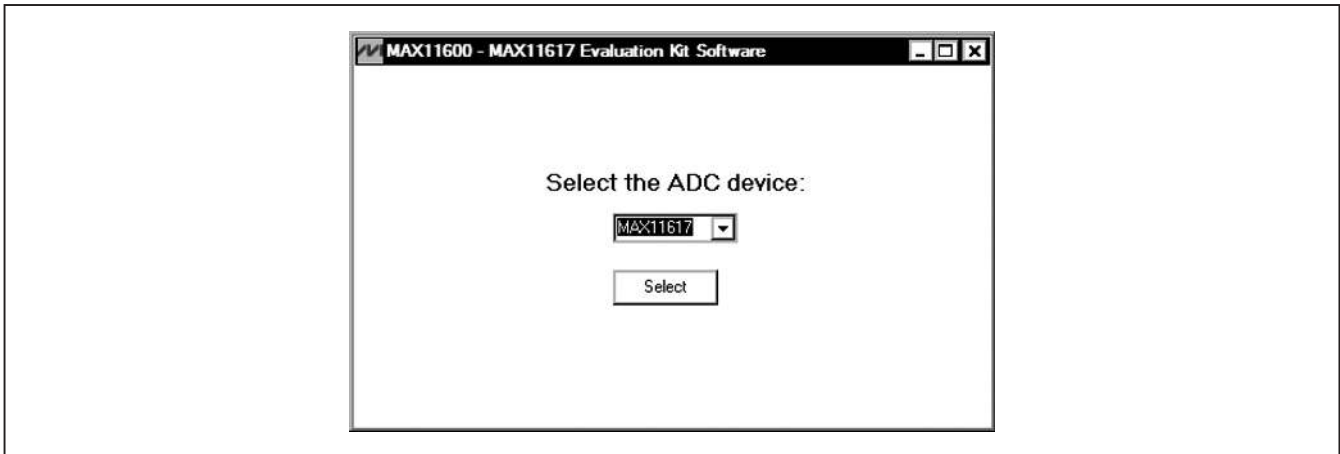
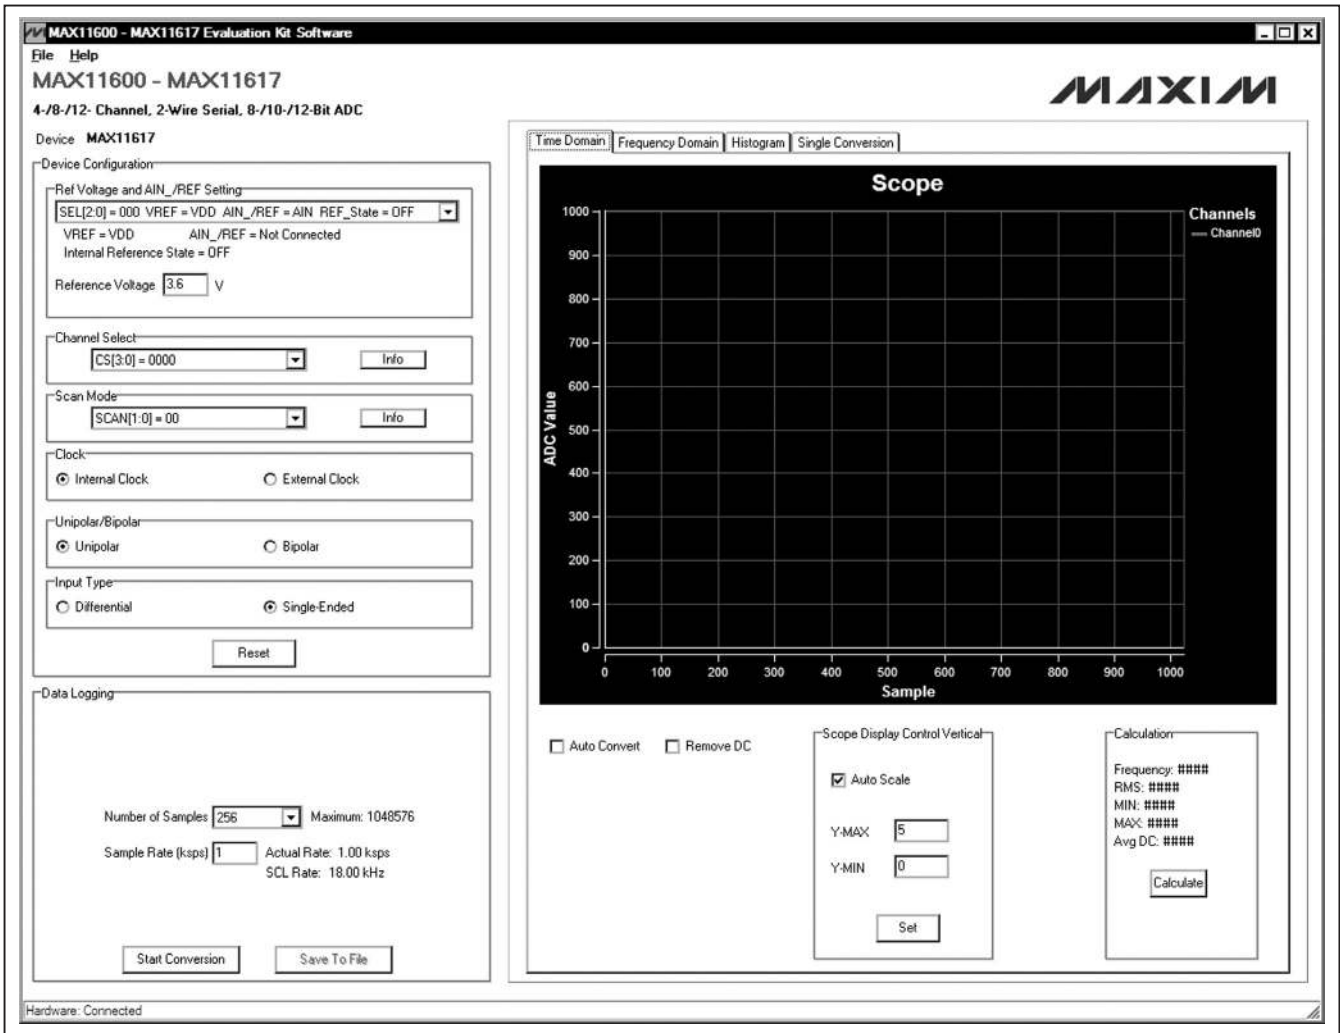
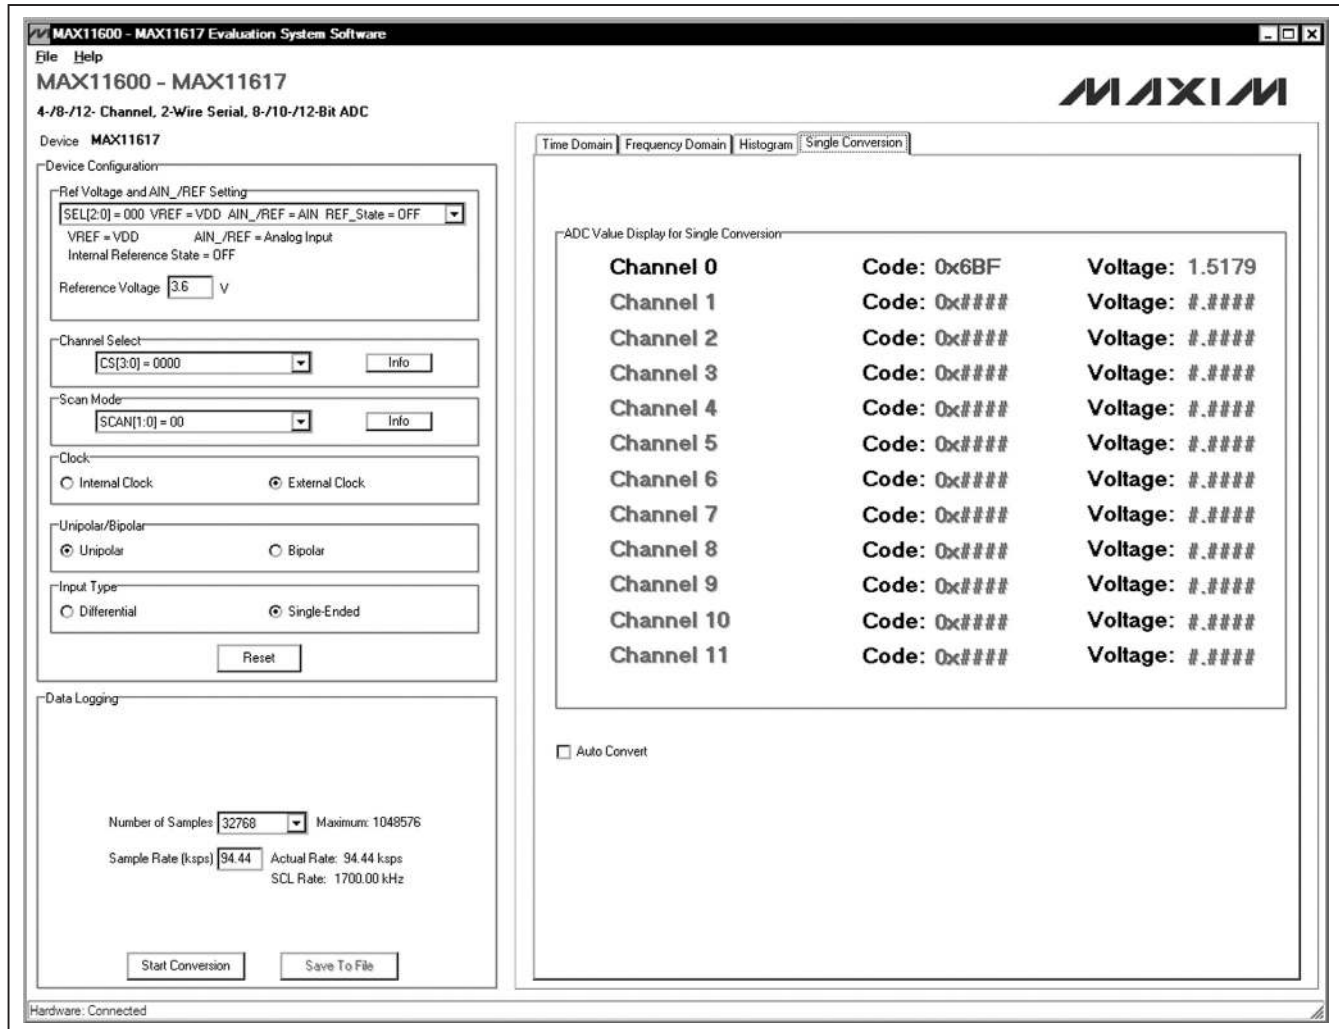

Figure 1. MAX11600-MAX11617 EV System Software Device Selection Window
Figure 2. MAX11600-MAX11617 EV System Software Main Window
Figure 8. Single Conversion Tab
- 11) Start the MAX11600–MAX11617 EV system software by opening its icon in the **Start | Programs** menu. The EV system software device-selection window appears, as shown in Figure 1. Select the appropriate device from the **Select the ADC device** drop-down list. The EV system software main window appears, as shown in Figure 2.
The MAX11600–MAX11617 EV system software supports all the MAX11600–MAX11617 ADC devices. When the EV system software starts up, select the appropriate device from the **Select the ADC device** drop-down list shown in Figure 1. Press the **Select** button to bring up the main software window.
The main window of the evaluation software (Figure 2) contains a **Device Configuration** group box, a **Data Logging** group box, and four tab sheets to display the sampled data.
The **ADC Value Display for Single Conversion** group box in the **Single Conversion** tab sheet (Figure 8) displays the **ADC Codes** and the calculated **Voltage** values for a single sample of all the channels that associate with the selected scan mode. Pressing the **Start Conversion** button in the **Data Logging** group box shown in Figure 2 updates the status of the **ADC Value Display for Single Conversion** group box.